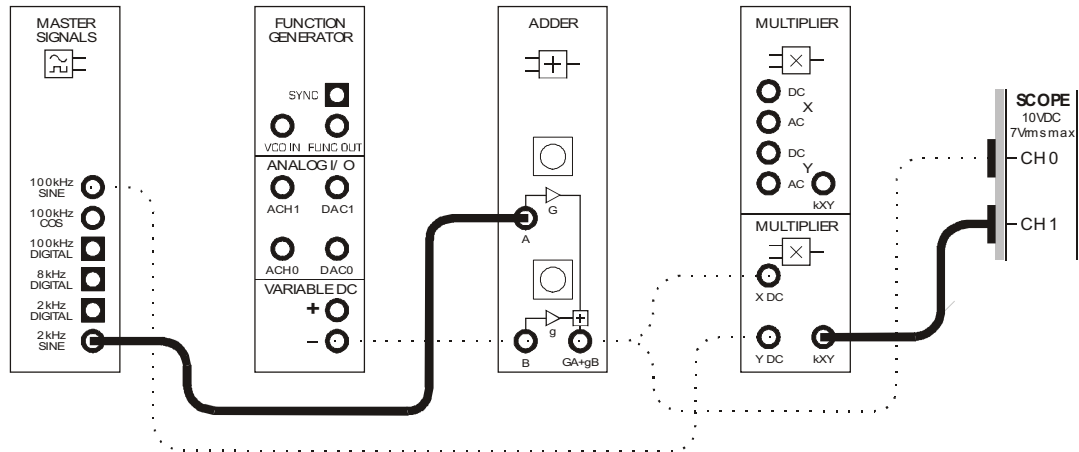

Figure 7
39. Disconnect the envelope detector and modify the set-up to return it to just an AM modulator with a 2kHz sinewave for the message as shown in Figure 7 below.